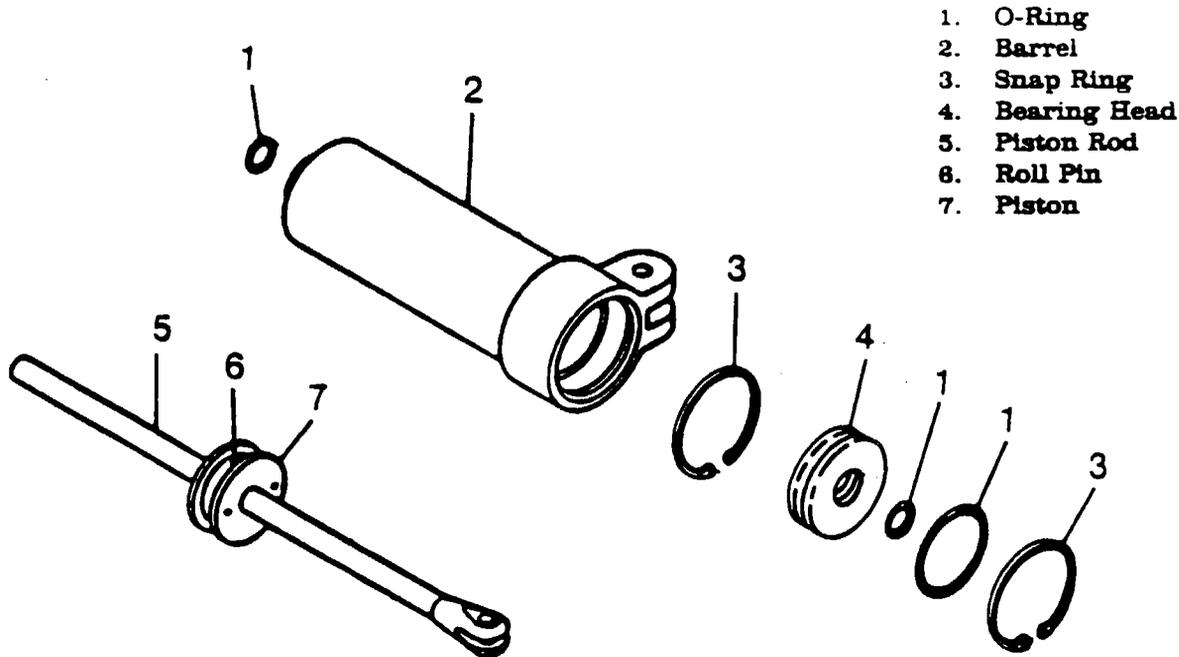

Figure 5-12. Shimmy Damper
- 5-55. **SHIMMY DAMPER.** (See figure 5-12.)
- 5-58. **DISASSEMBLY AND REASSEMBLY.** (See figure 5-12.) Refer to figure for disassembling and reassembling the shimmy damper. When reassembling damper, install all new O-rings. Lubricate all parts with clean hydraulic fluid, Petrolatum VV-P-236, or Dow Corning DC-7. Keep DC-7 away from painted surfaces. When damper is completely assembled, service in accordance with procedures outlined in Section 2.